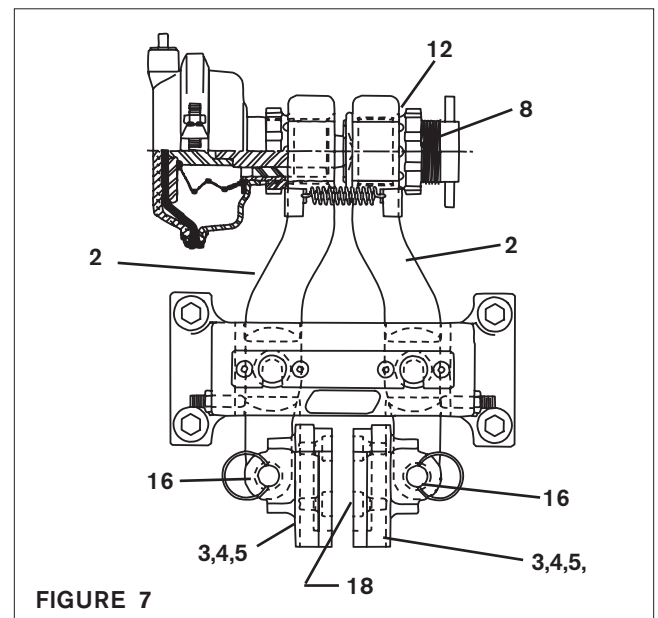

FIGURE 7
1. Remove Shoe Pins (Item 16) to release Friction Facing Shoe assembly (Items 3, 4, & 5) from Arms (Item 2) (See Fig. 7).
2. Remove Friction Facings (Item 4) (See Fig. 7).
4. Loosen Adjustment Screw Spanner Nut (Item 12), then back out Adjustment Screw (Item 8) until Friction Facing Shoe Assembly will slide back into Arms (Item 2) (See Fig. 7).
5. Replace Friction Shoe Pins (Item 16) (See Fig. 7).